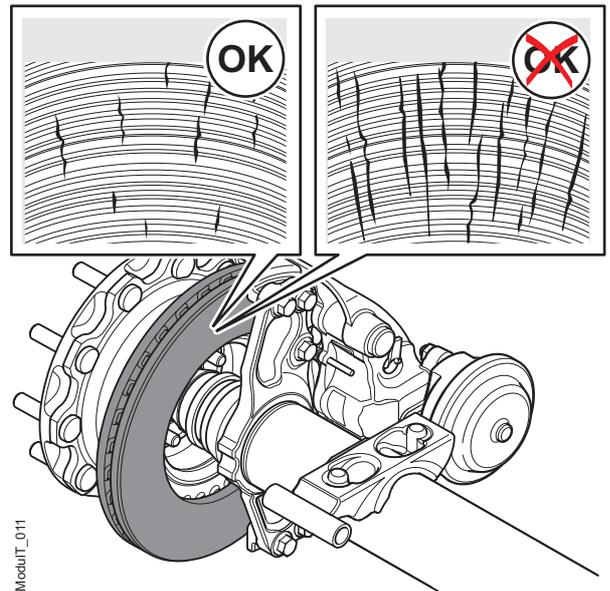

Figure 17. Inspection of the Brake Disc
1. Look for wear, damages and cracks, see figure 17. Also refer to the axle/vehicle manufacturer instructions. Cracks that enter the cooling ducts via the outer or inner radius are not permitted!